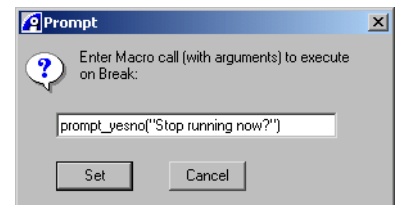

Figure 4-21 Breakpoint macro entry prompt
4. Select the option **User Macro...** to display the data entry prompt, shown in Figure 4-21.
The predefined macro shown in Figure 4-21 displays a message box to halt execution if the **Yes** key is pressed.